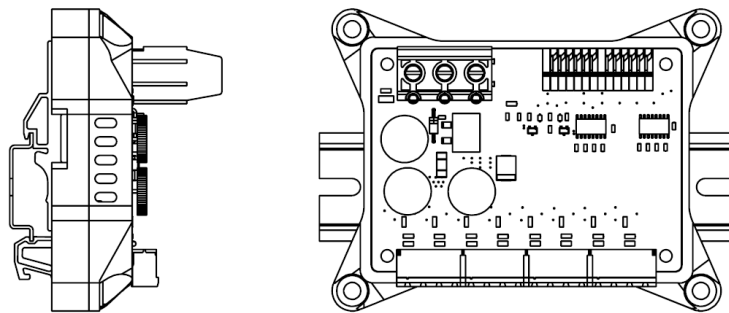

Figure.3
- It is mounted on a standard DIN Rail (35mm) using the self-springing seating feet located under the housing, as shown in **Figure 3**.